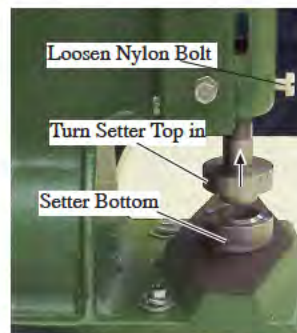

Figure 9. Install Setter
2. Lift the Moving Head to the top position. Loosen the Nylon Bolt on the Moving Head, screw the Setter Top completely into the Moving Head as shown in Figure 9, and put the Setter Bottom on the press base. To properly adjust setters, make two adjustments, first a coarse adjustment followed by a second fine adjustment.